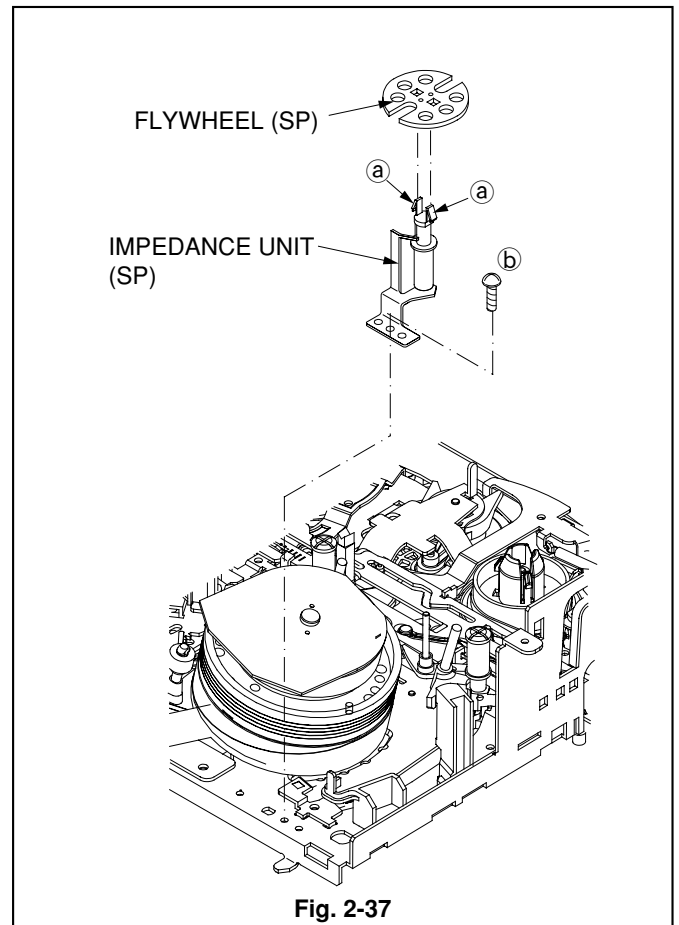

Fig. 2-37
1. Unfasten the two catches (a) on the IMPEDANCE UNIT (SP) shown in Fig. 2-37, and remove the FLYWHEEL (SP).
2. Remove the one screw (b) on the IMPEDANCE UNIT (SP) shown in Fig. 2-37, and remove the IMPEDANCE UNIT (SP).
1. Install the IMPEDANCE UNIT (SP) shown in Fig. 2-37.
2. Install the FLYWHEEL (SP) shown in Fig. 2-37.